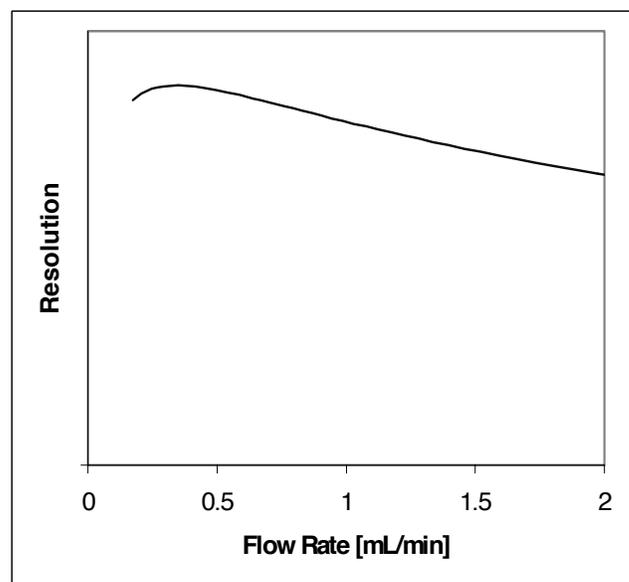

Figure 1
A.: Gladly! Hidden behind your question is the dependence of the height-equivalent to a theoretical plate on the linear velocity. Both are terms of chromatographic theory that most practitioners forget the moment they complete the introductory course to chromatography. What I will try to do in the following is explain the phenomena in simpler terms. In isocratic chromatography, resolution usually decreases as the flow rate is increased and increases as the flow rate decreases (see figure 1). However, at a particular flow rate, which is analyte and mobile phase specific, the resolution reaches a maximum. If I decrease the flow rate any further, the resolution will decrease again. Obviously, this region of